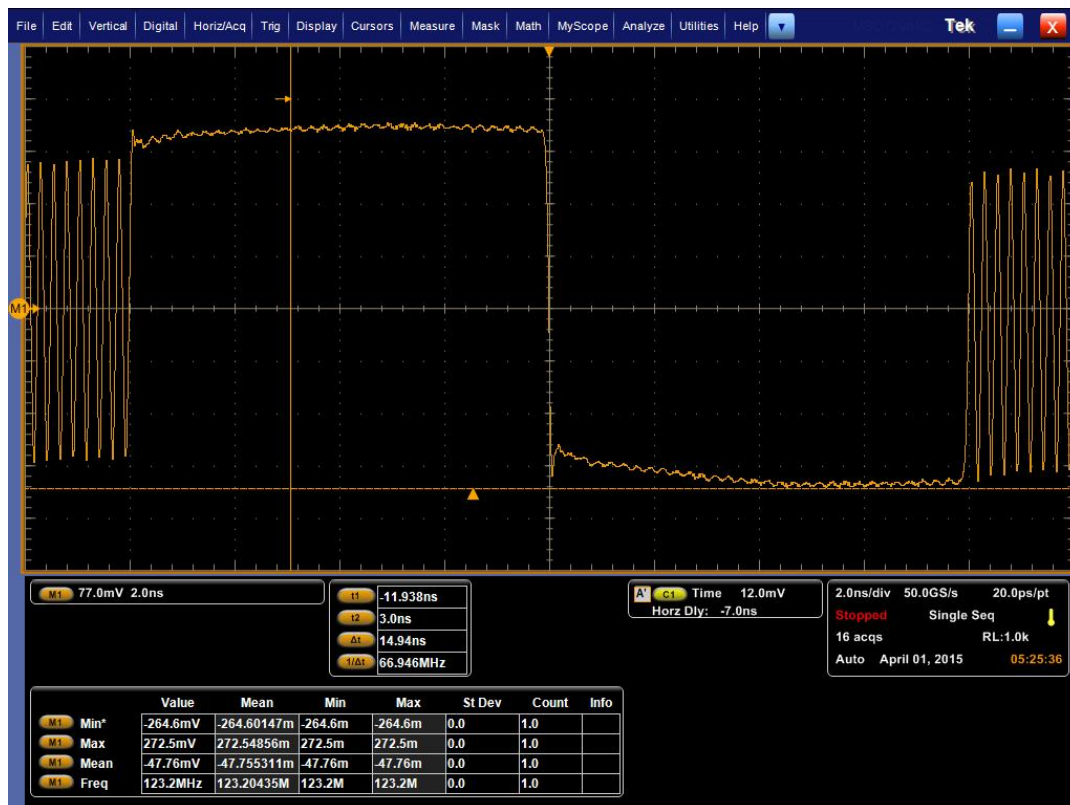

FIGURE 57. SCOPE SETUP AND MEASUREMENT
8. Acquire the waveform. An example is shown in Figure 57.